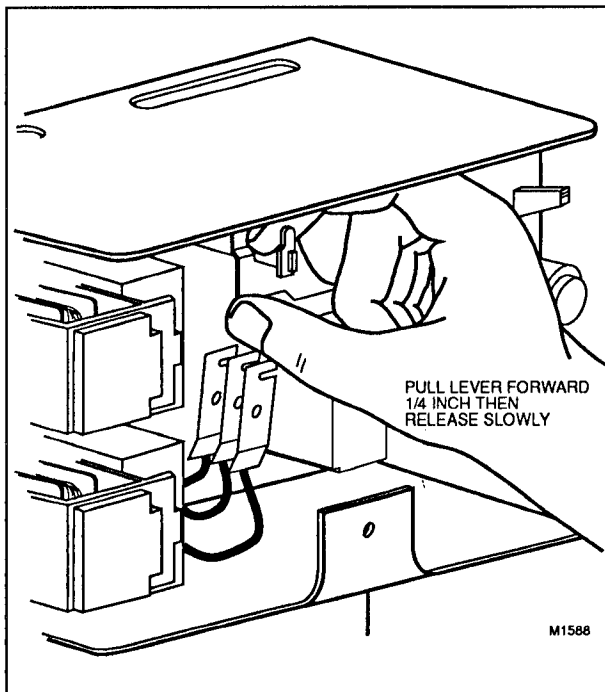

FIG. 8—STEPPING THE PYROSTAT DETECTOR CONTACTS.
2. Pull the lever forward 1/4 inch (Fig. 8).